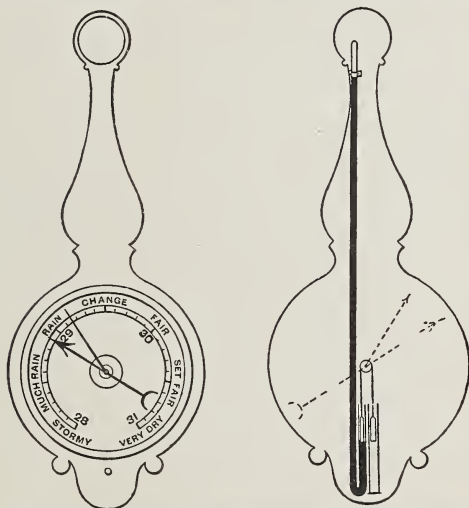

Fig. 32.—Front and Back of a Barometer or Weather Glass Used to Show Changes in the Pressure of Air, and therefore Changes of Weather
*The Siphon Type*—These are made with J tubes. The long end is sealed, and the short one left open. A float is inserted in the open end and is allowed to rest on the exposed mercury surface. This float rises or falls as the mercury level in the instrument changes. Its motion is transferred to a wheel by a silk string, one end of which is fastened to the float, while the other end, after passing around the wheel, is fastened to a counterbalance weight. The weight rises or falls and thus turns the wheel which is fastened to a pointer. This pointer moves over a dial plate graduated in inches. Siphon barometers are not accurate but are often seen in houses and are popularly called "Weather Glasses". Fig. 32 shows the front and back view of one of these siphon barometers.